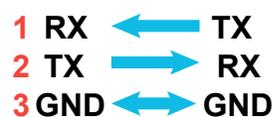
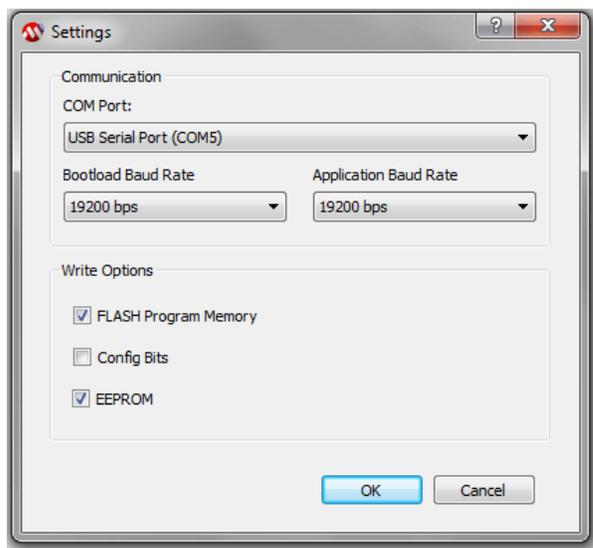
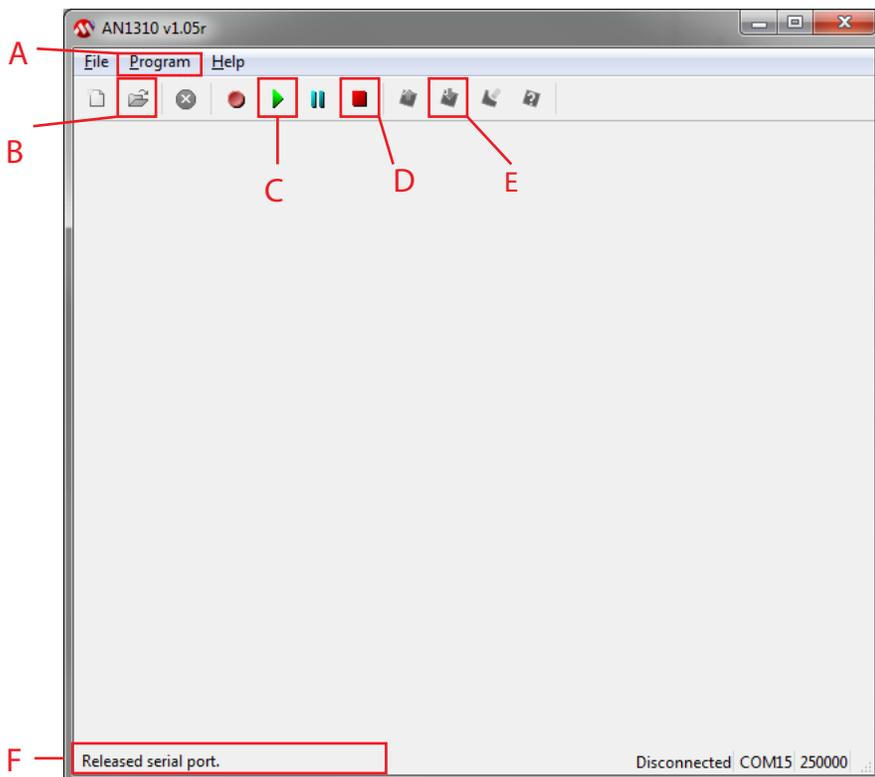

Fig. 3
Fig. 2
Fig. 1
When hooking them up to a NLED device it is important to cross over the RX and TX connections. RX is receive, TX is transmit. From device to controller RX to TX, TX to RX, and GND to GND. See Fig. 3
- ▶ Connect the device to the computer's USB port using the Serial Adapter. Connect RX, TX and GND as Fig. 3
- ▶ If not yet setup, the software must be configured. Ensure the software is directed to the Serial Adapter's port and the "FLASH Program Memory" and "EEPROM" boxes are checked. The baud rate is autodetected, 19200 is a good default. See Fig. 2
- ▶ Open the bootloader connection by pressing the red square button(Fig. 1, D). If the bottom left corner indicates "Bootloader Not Found" check all connections(Fig. 3) and software settings(Fig. 2)
- ▶ Use the open file dialog button(Fig. 1, A) and select the firmware update file(.HEX)
- ▶ Then Click the Program/Verify button(Fig. 1, E)
- ▶ Restart the device either by power cycling or pressing the reset button.(Fig. 1, C)